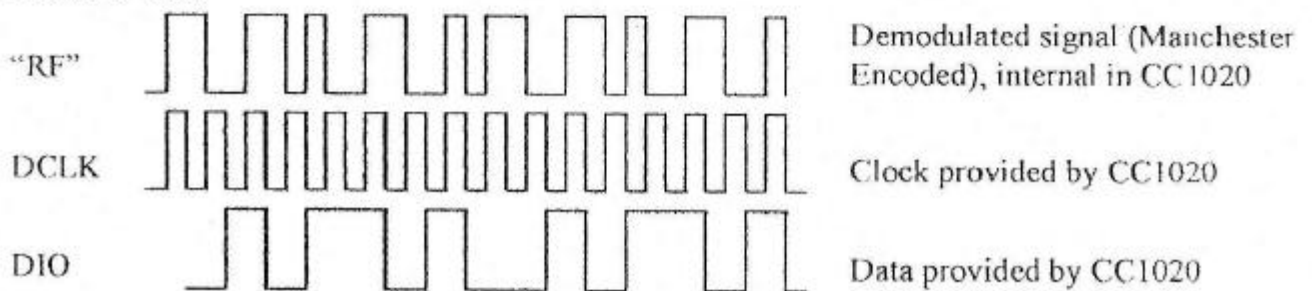

**Figure 8. Synchronous NRZ mode**
*Synchronous NRZ mode.* In transmit mode **CC1020** provides the data clock at DCLK, and DIO is used as data input. Data is clocked into **CC1020** at the rising edge of DCLK. The data is modulated at RF without encoding. In receive mode **CC1020** does the synchronization and provides received data clock at DCLK and data at DIO. The data should be clocked into the interfacing circuit at the rising edge of DCLK. See Figure 8.